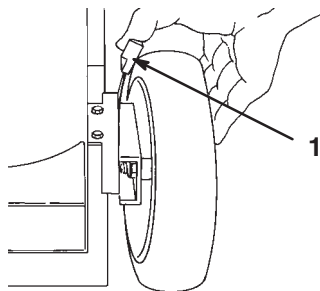

Figure 15
1. Pull the wheel height adjustment lever toward the wheel (Fig. 15) and move it to the desired setting.